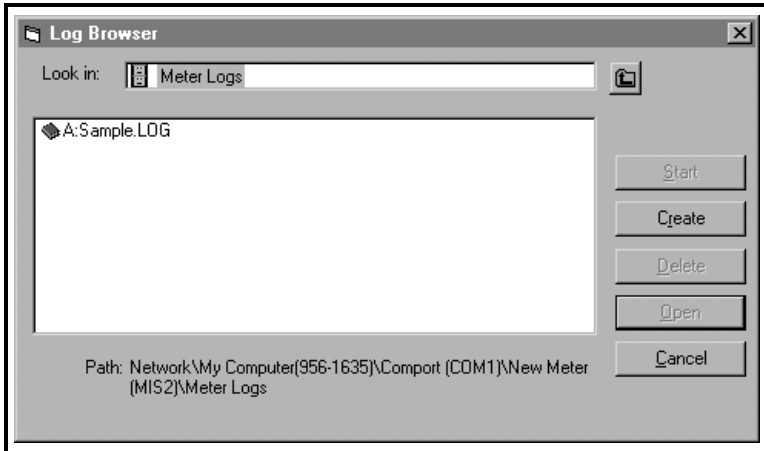

Figure 6-17: Create a Meter Log
- d. Double click on *meter logs* to move to the network level shown in Figure 6-17 below.
- e. At the dialog box shown in Figure 6-17 above, click on the [Create] option button to create a new meter log.